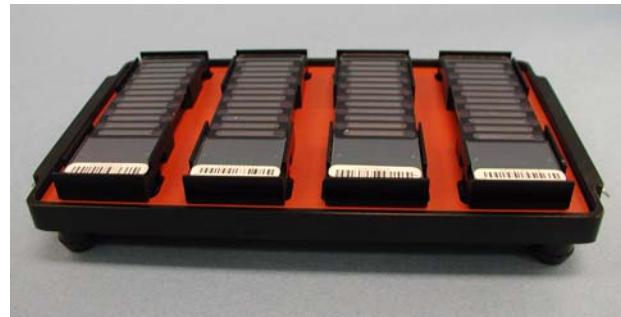

Figure 121 Placing Hyb Chamber Inserts into Hyb Chamber
4. Load the Hyb Chamber inserts containing the BeadChips inside the Illumina Hyb Chambers as shown (Figure 121). Position the barcode over the ridges.